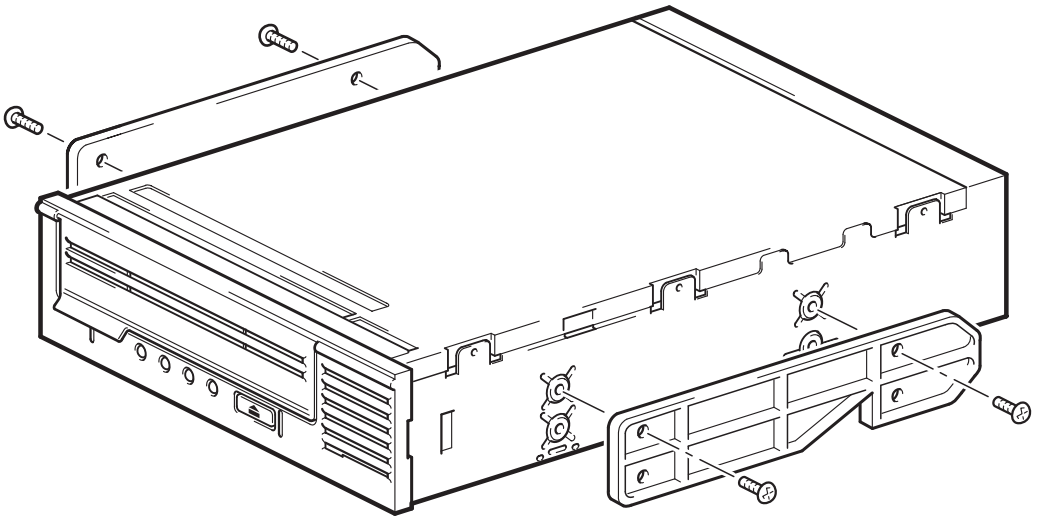

Figure 5a: attaching mounting rails in a typical HP ProLiant 530 or 570 server
- 1 Use a regular Phillips screwdriver to attach the appropriate rails. Use the M3 screws provided with the tape drive, in the screw pack labeled ‘General Mounting Screws’, as shown in Figure 5a.